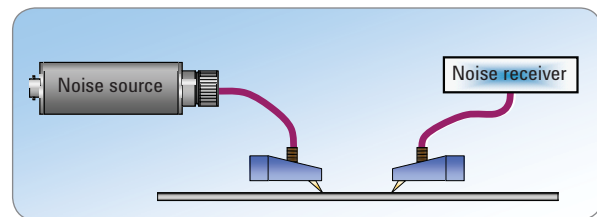

Figure 19. On-wafer component test
- **On-wafer testing** of microwave integrated circuits requires coaxial-to-coplanar test probes (Figure 19)